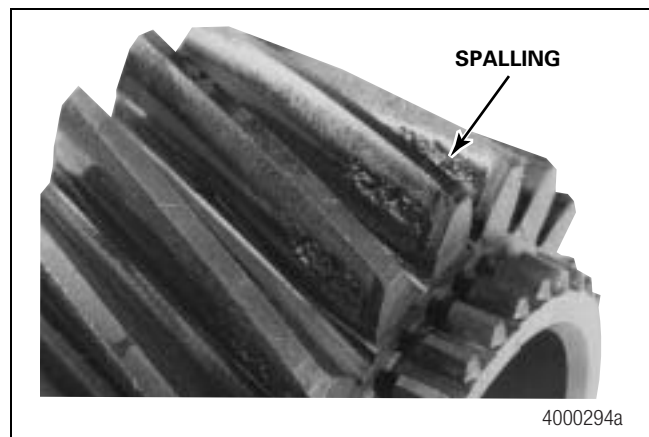

Figure 5.7
- Severe scoring or fretting on the surface of a tooth. Gears with scoring and fretting on the teeth, but without cracks, may continue to operate satisfactorily with higher noise. Figure 5.7.